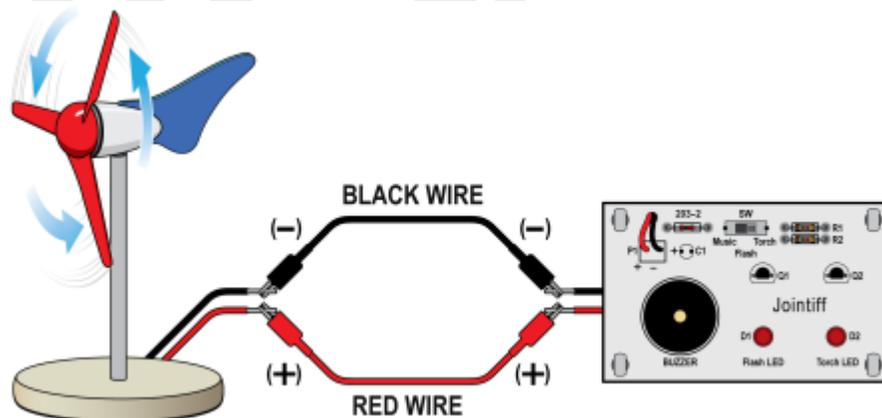

Figure 2
1. Does Figure 2 show an open circuit or a closed circuit? _____
2. Draw arrows on Figure 2 to show the flow of electrons in the circuit.
- b. Use a wire to connect the red wire from the Sound and Light Board to the red wire from the wind turbine, as shown in Figure 2.